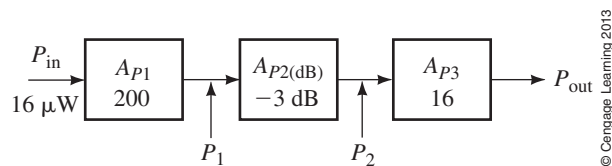

FIGURE 22-48
17. Calculate the power levels (in dBm) at the output of each of the stages of the system shown in Figure 22-48. Solve for the output power (in watts).